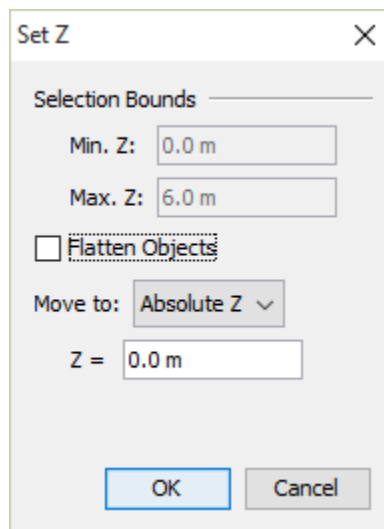

Figure 82. Set Z dialog
Sometimes when importing from 3D CAD models, extracted rooms may not be at the proper height or may have some undesired slope. These issues can be corrected either before or after extracting rooms by using the **Set Z** dialog (Figure 82).
3. This will open the **Set Z** dialog as shown in Figure 82.